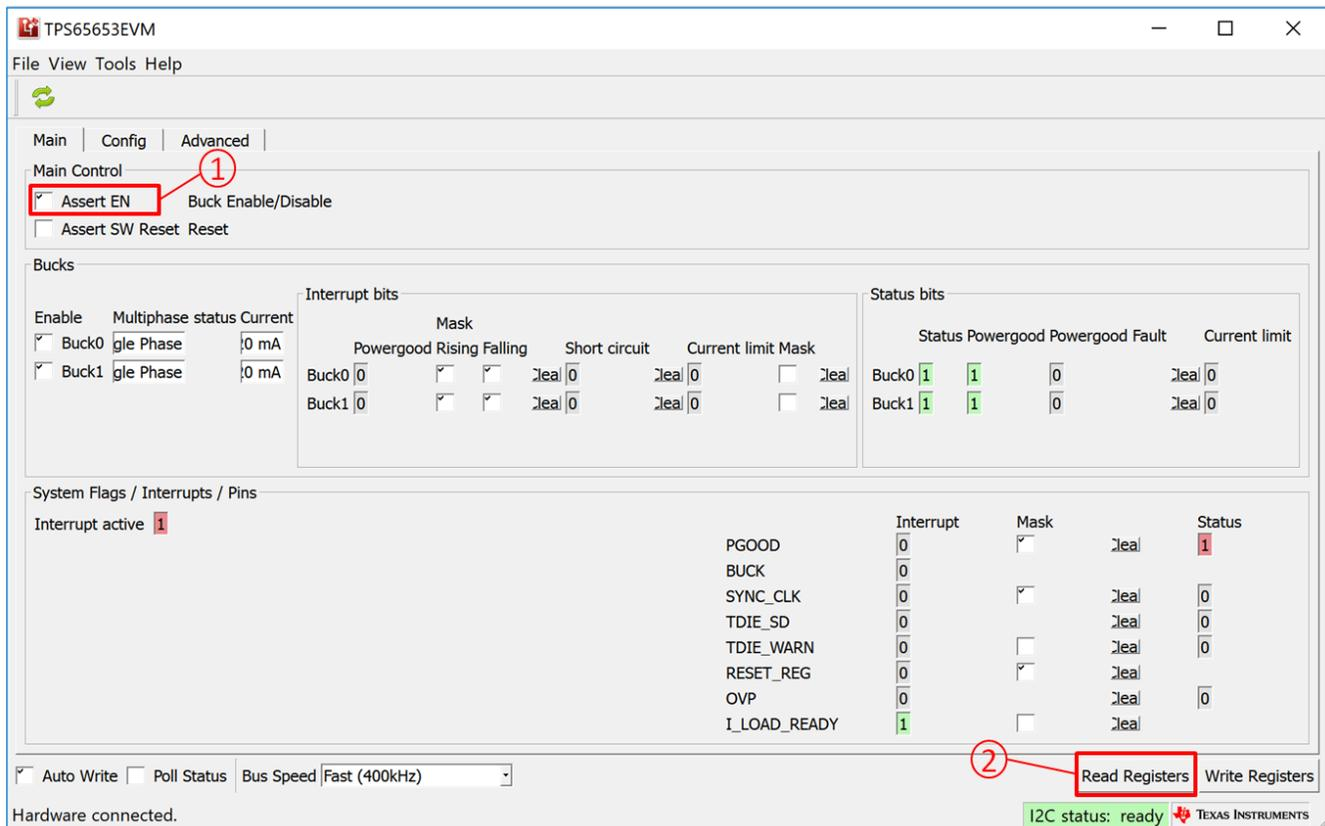

Figure 3. Evaluation Software GUI Showing Steps Needed to Power up the TPS65653-Q1
1. Click on Assert EN check box. See marking 1 in Figure 3..
2. Click on Read Registers button (marking 2 in Figure 3). User should see “I2C Status: ready” message on the green background next to the Read Registers button.